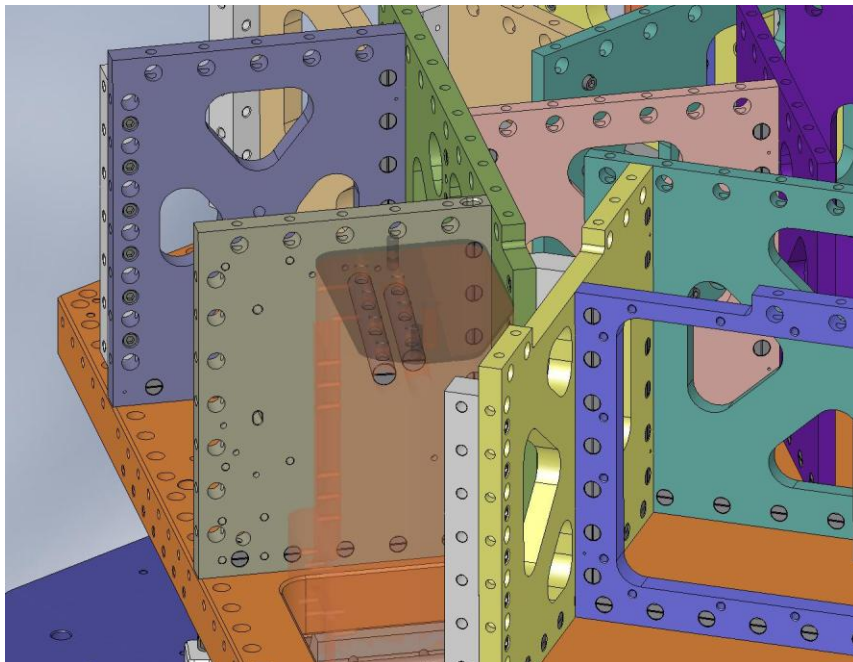

Figure 3.78. Slide (2) large Gang Barrel Nuts into each Support Post. These will capture the mounting screws for the Springs.
- Insert a 3-hole and a 4-hole 1/2"-13 **Gang Barrel Nut** (D071251-03 and -04, respectively) into each of the **Support Posts**, as shown in Figure 3.78.